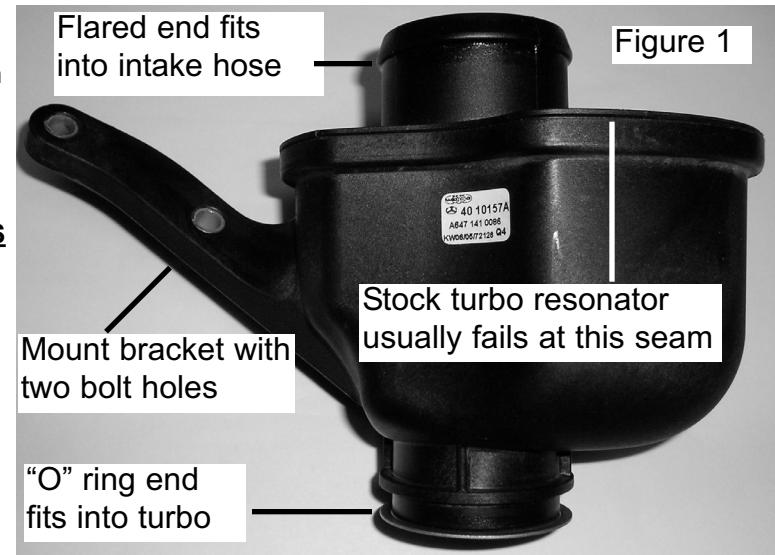

Figure 1
Step 1.) Locate the Turbo resonator. The turbo resonator is a plastic canister type device that is easily spotted by laying on your back and looking up into the engine compartment just behind the front bumper on the **passenger side** of the van. Out of the vehicle it looks like this (**see figure 1**) The "flared" end is pushed inside the intake hose and held in place with a hose clamp. The "O" ring end is pushed inside the output side of the turbo and the two bolts that go through the mount bracket and into the alternator bracket are the only bolts holding the device in place.